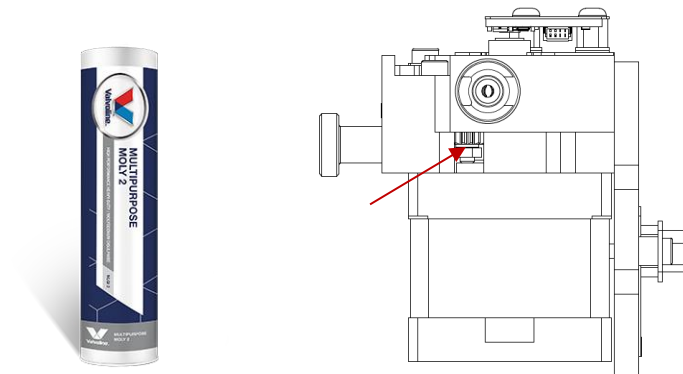

Fig. 86 Lithium molybdenum grease and where to apply it
14. After cleaning the extruder with compressed air, lubricate the extruder gear wheel. For lubrication, you will need a lithium molybdenum grease, e.g. Valvoline Multipurpose Moly 2 or another grease with similar characteristics (Fig. 86), and a toothpick. Apply a small amount of lithium molybdenum grease (equivalent to the volume of a head of a pin) on a toothpick and spread it over the gear wheel, applying it through the hole marked on the drawing (Fig. 86).